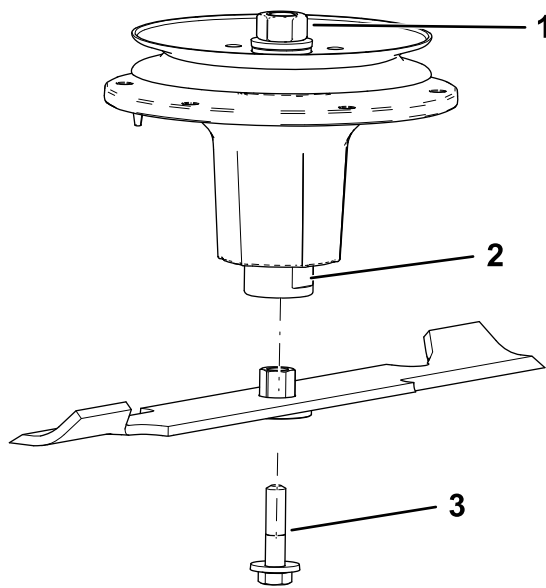

Figure 100
2. Install the bushing/blade assembly into the spindle shaft (Figure 100).